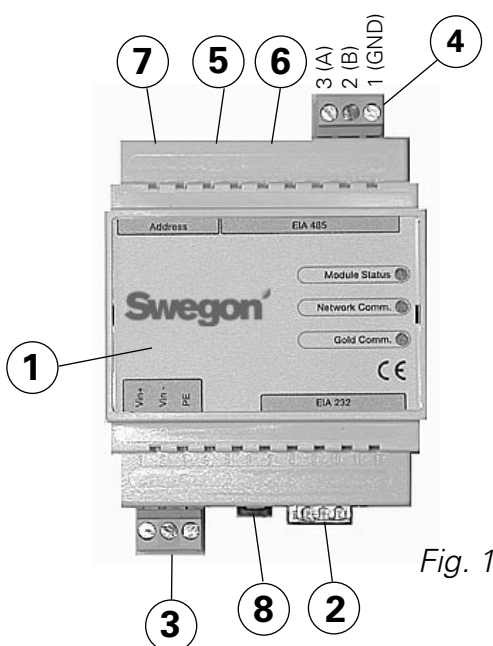
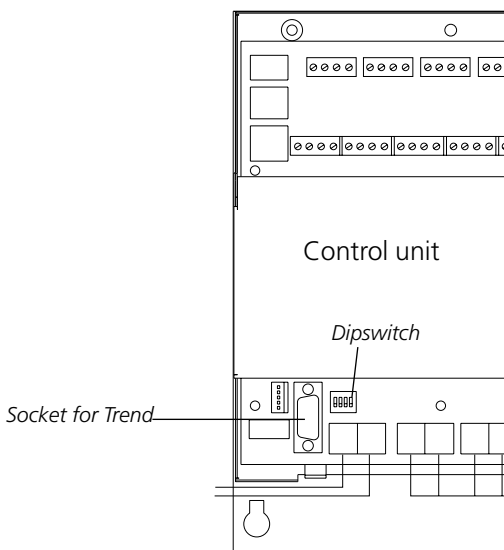
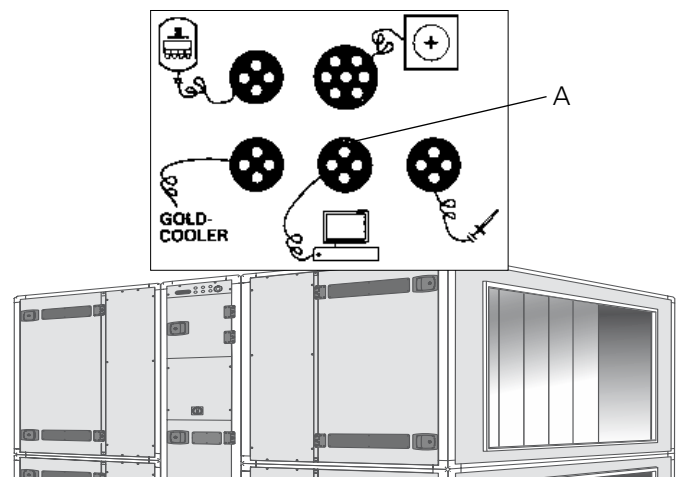

Fig. 1
Fig. 5
Fig. 6
Connect the V in+ (1) and Vin- (2) terminals, see Fig. 1, of the GOLDen GATE unit to a separate network component with the correct capacity or to the GOLD unit's 24V AC terminals depending on the model as described below:
Set any of switches 8 (see Fig. 1) in the ON position while configuring. The switch must be in the ON position before termination of the 24 V supply.
The unit should be without power for 30 seconds before settings are applicable after the configuring is finished and all parameters are saved. Reset all switches back to 8 (see Fig. 1) in the OFF position.
#### Version C (see Figures 1 and 4)
#### Version B (see Figure 5)
Use the data communication cable supplied for connecting with 6-pin modular contact RJ12 to 6 (see Fig. 1) and 9-pol D-sub to GOLD (see Fig. 5). Dipswitch 4 on the GOLD unit's control unit must be set to the ON position and dipswitch 3 to the OFF position, see Figure 5.
#### Version 4/A (see Figure 6)
Use the data communication cable, supplied, with 6-pin modular contact RJ12 to 6 (see Fig. 1) and the round contact to the GOLD (see Fig. 6).